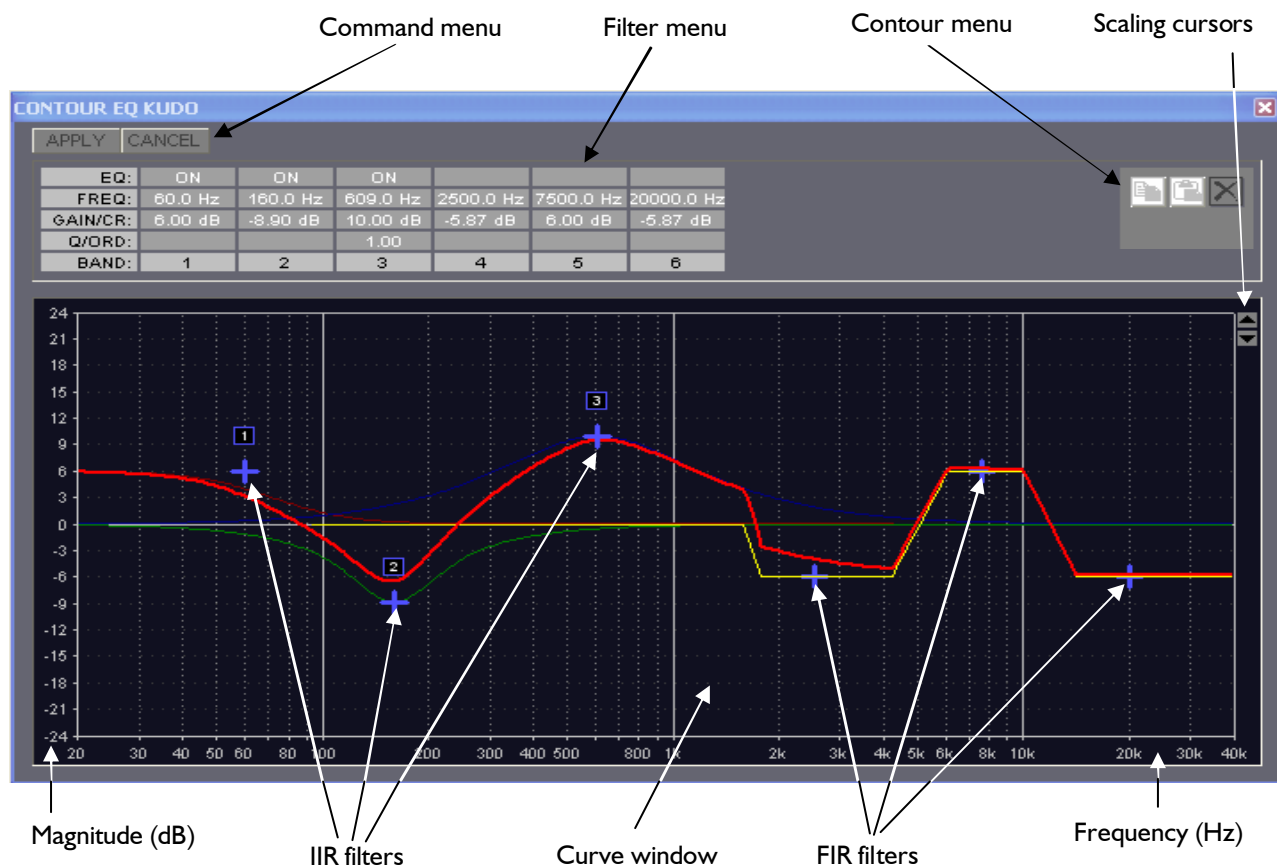

Figure 20: “Contour EQ” window
**Example:** Figure 20 shows the “Contour EQ” window for the KUDO Group.